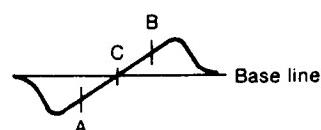

Fig. 11
- Use the T202 core to form the S-curve shown in Fig. 11. Adjust the symmetry of A and B about point C for linearity.